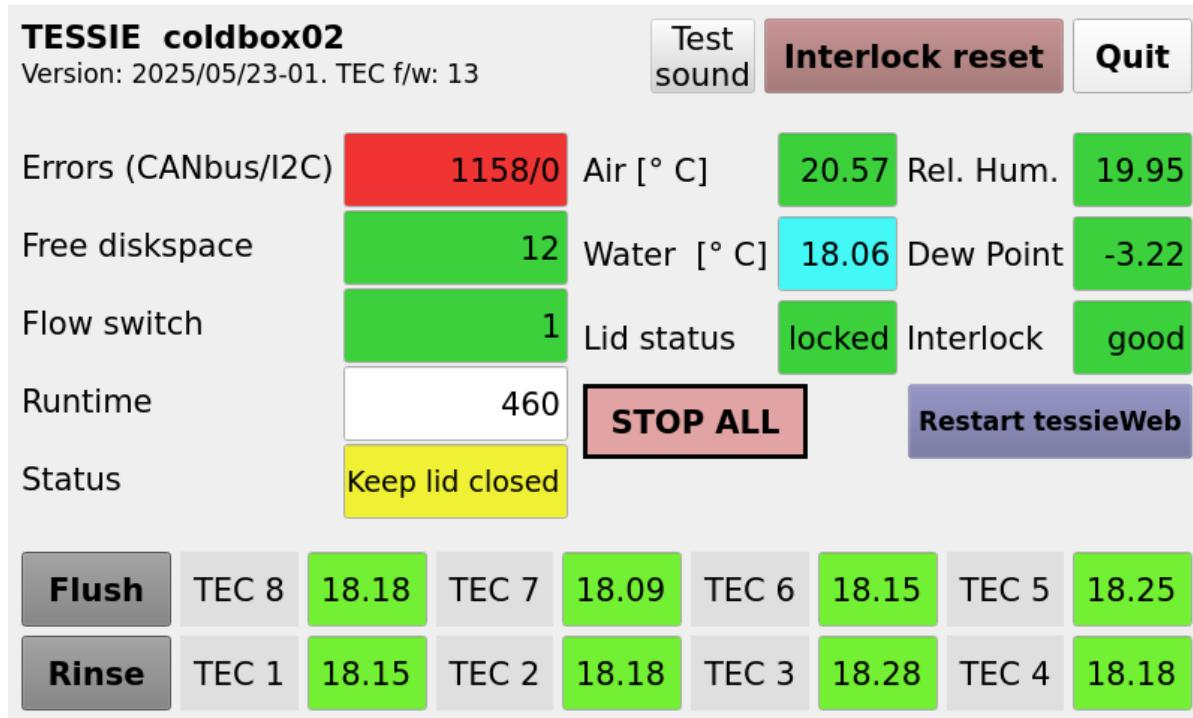

Figure 11: Illustration of the red background in case of many CANbus errors.
**System status** The ”Errors” field accumulates the total number of CANbus errors and I2C bus errors over **tessie**’s running time. It will turn (shortly) red in case of a new CANbus/I2c bus error, *cf.*, Fig. 11. If there is a persisting CANbus problem, it will stay red. The ”Free diskspace” field shows the free storage space on the **Raspberry Pi** (**tessie** is writing considerable output, and if the storage space runs low you’ll have to clean up and make space). This field should turn yellow with < 2 GB free storage and it will turn red when < 1 GeV is free. The ”Flow switch” field shows the status of the the chiller flow, as (if) measured by the flow switch. ”Runtime” shows the **tessie** running time in seconds. The ”Status” box tries to indicate the status of the box in normal terms (note that a single line can not always reflect a complex situation. For instance if the chiller is off and the conditions inside the box require keeping the lid closed, only one requirement is reflected in this field).